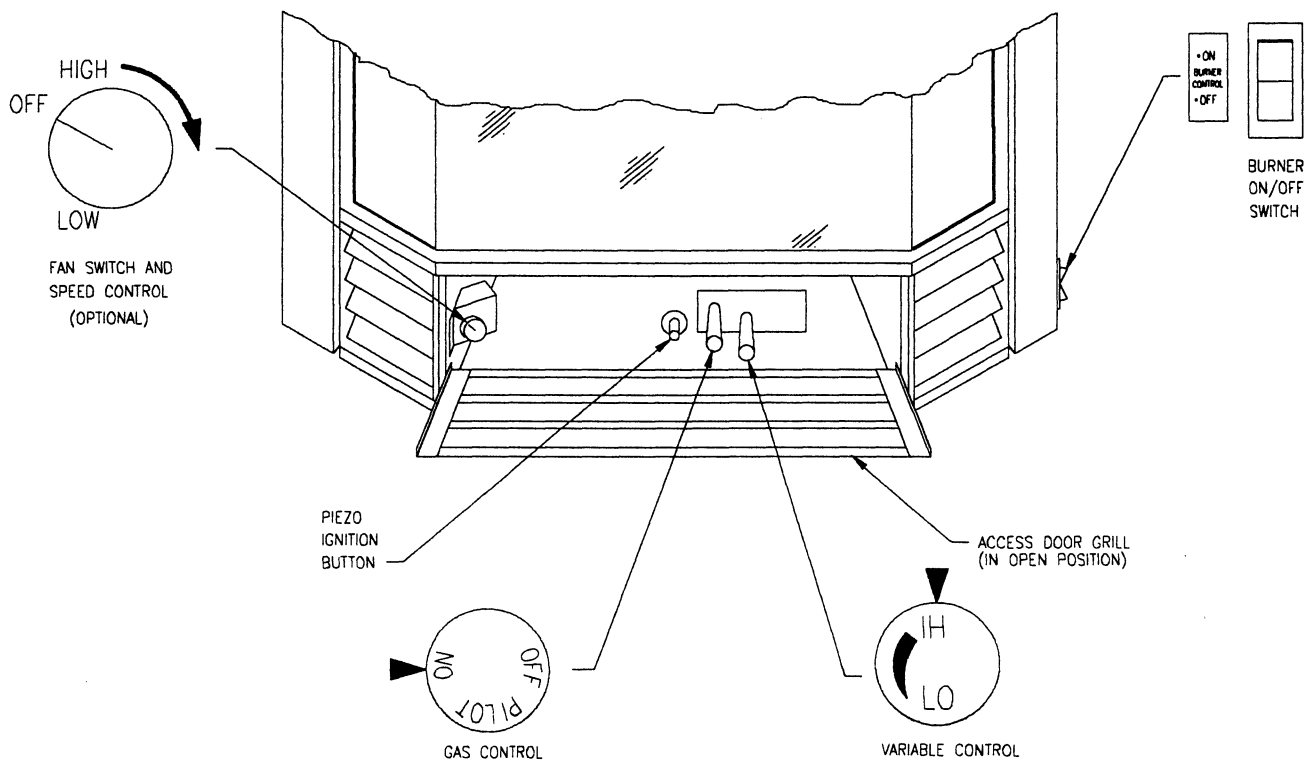

Figure 2
10. Turn the burner switch to on (Figure 2).
1. To turn off the main burner only, turn off the wall switch, thermostat, or On/Off switch located on the lower right side shield (Figure 2).
The valve supplied with the appliance has a HI/LO knob to select the heat output and flame height (see Figure 2).